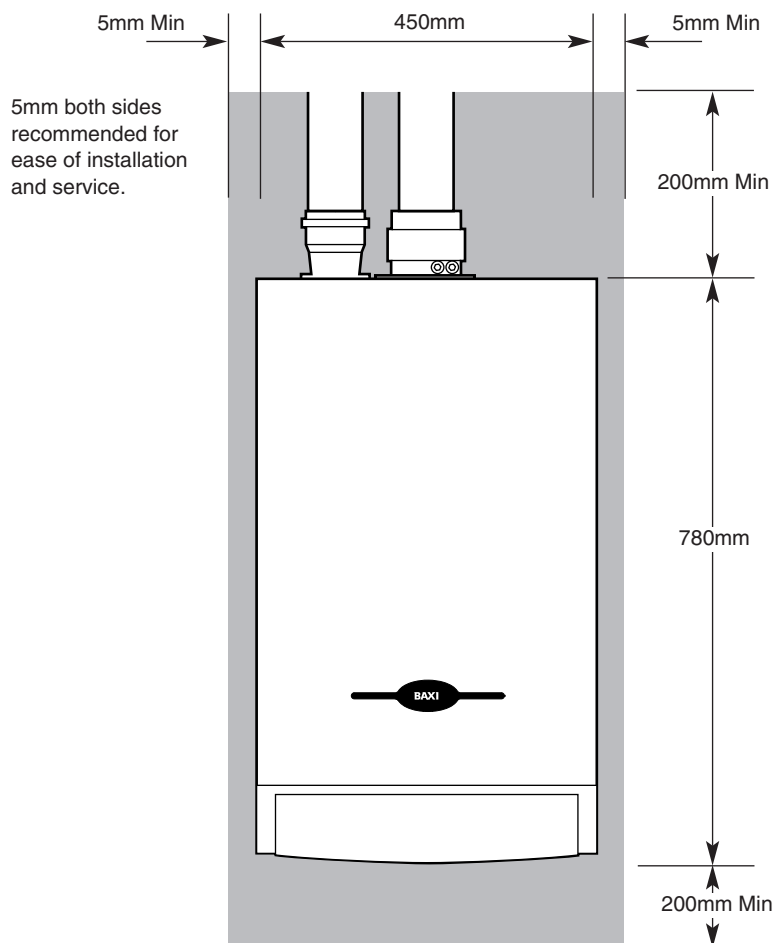

Fig. 21
4.1 Clearances around the Boiler (Figs. 21 & 22)